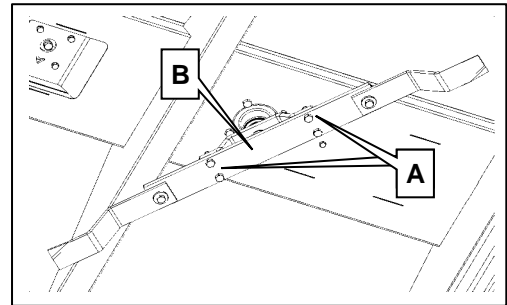
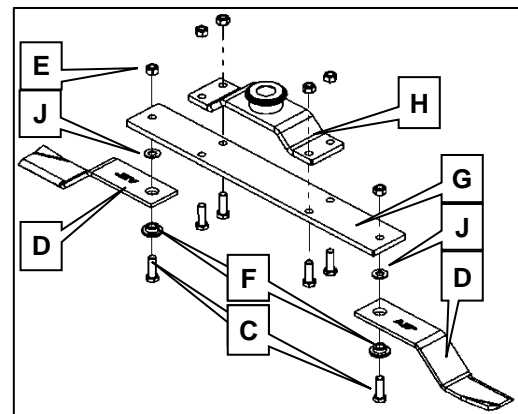

Figure 8.3
Figure 8.4
Lift and support the machine on safety supports. With assistance, support the blade carrier assembly, remove the split pin (K) and rotor castle nut (J) in Figure 8.4 and remove the whole blade carrier assembly from the splined gearbox output shaft through (B), see Figure 8.3.
If necessary, the blade bar (G) in Figure 8.4 may be removed and replaced without upsetting the driveline timing. Undo four fasteners (A) in Figure 8.3. The blade bar with blades attached can be removed.
To Remove: Unfasten blade bolt (C), locknut (E), flat washer (J) in Figure 8.4 and discard. Dismantle the blade (D) and blade bush (F).